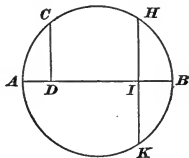

FIG. 47.
If  $AB$ , Fig. 47, is the given diameter and  $C$  any point on the circumference, then  $AD : CD = CD : DB$ ,  $CD$  being a mean proportional between  $AD$  and  $DB$ .
**EXAMPLE.**—In Fig. 47, the diameter of the circle  $AB$  is  $36\frac{1}{8}$  feet and the distance  $BI$  is 8 feet; what is the length of the line  $HK$ ?
2. Suppose that in Fig. 47, the diameter  $AB = 15$  feet and the distance  $BI = 3$  feet. What is the length of the line  $HK$ ?      Ans. 12 ft.